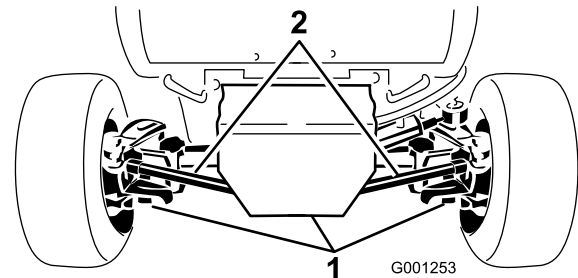

Figure 19
2. Clean the area around the 3 drain plugs, 1 on each end and 1 in the center (Figure 19).